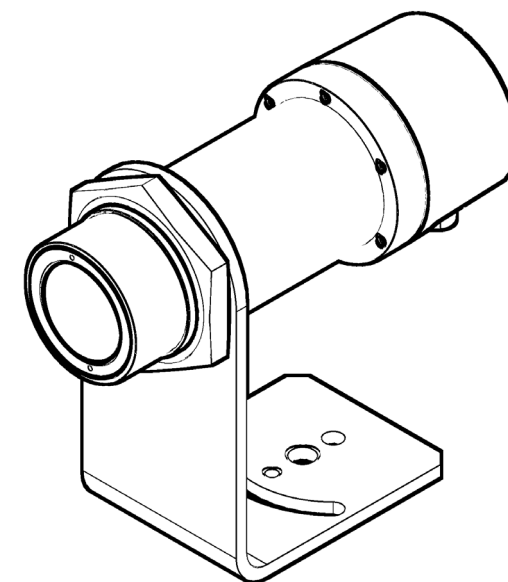

Fig. 3
- 4) Refer to Fig. 3. Thread the Lock Nut on to the front of the Thermometer and tighten the nut until the Thermometer is held securely in the Mounting Bracket. The installation is now complete.